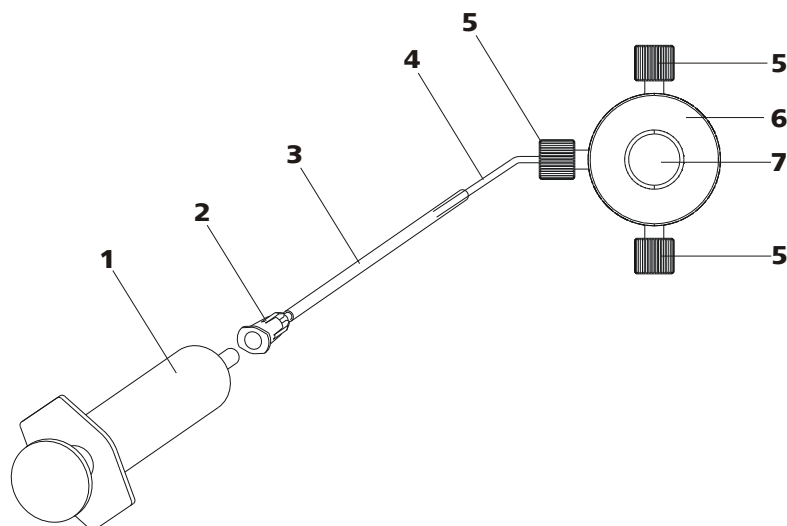

Figure 15 Deaerate the high pressure pump
Deaerate the high pressure pump as follows (see Figure 15, page 28):
- Insert syringe (15-**1**) in the Luer connector (15-**2**) of the purging needle (see Figure 15, page 28).